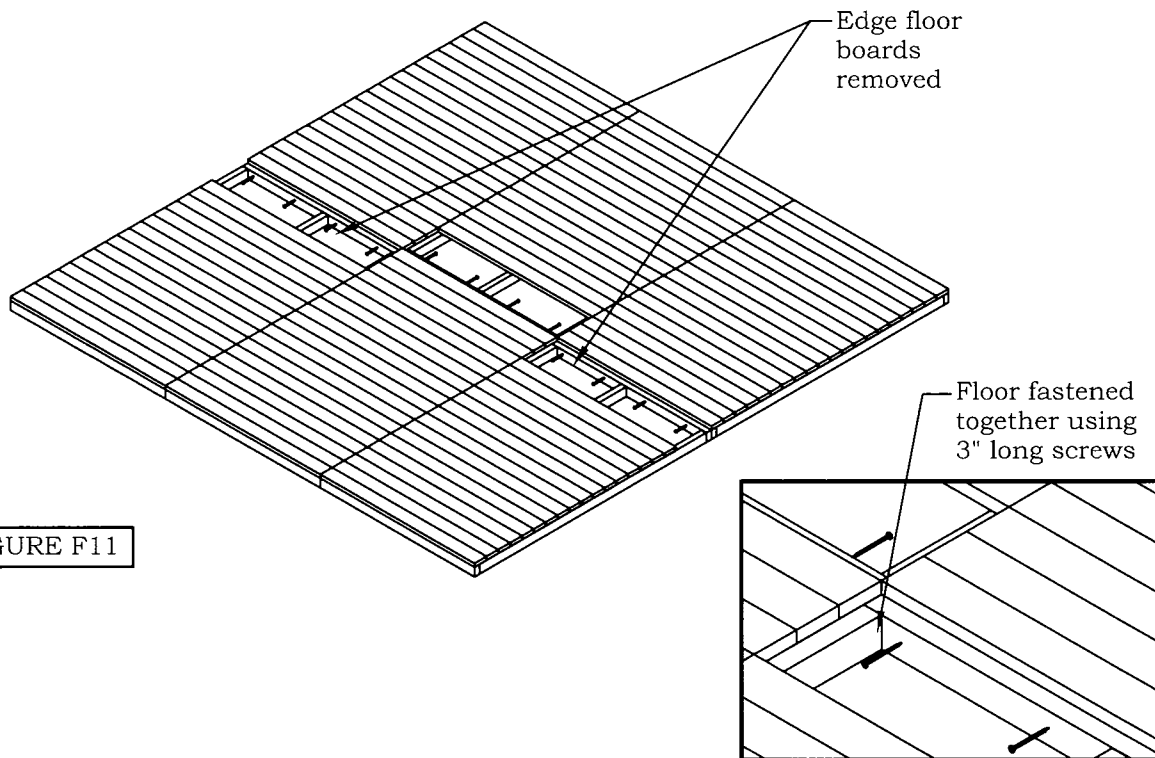

FIGURE F11
- Three of the six floor panels come with 1½" screws on the edge floor boards on one side. Remove the edge floor boards so you can secure the floor panels together. Place floor panels butt up against each other on the leveled foundation. Use 4-6 3" long screws per side as shown in Figure F11. See Detail 3. Re-attach the floor boards after securing the floor panels together using the same 1½" screws.